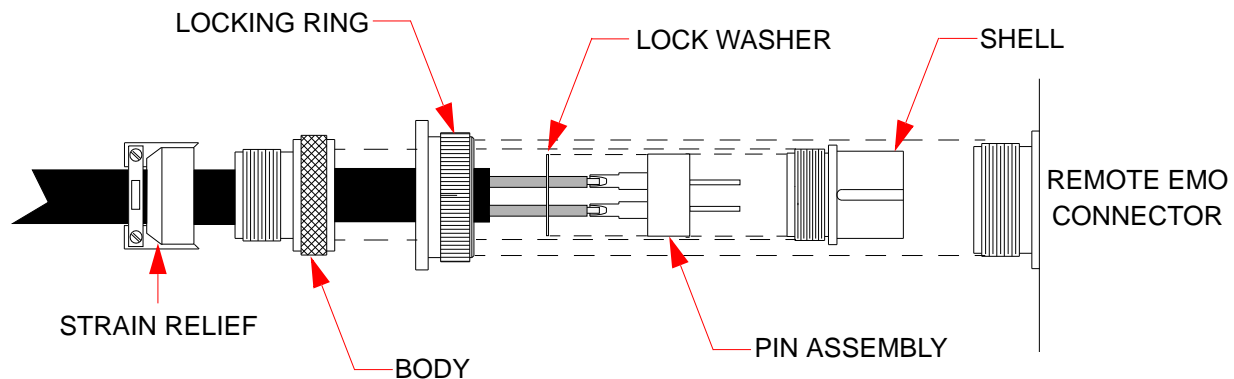

Figure 4-3: EMO Remote Connections
4. Slide the connector components over the cable as shown in Figure 4-3.
6. Solder the conductors of the customer supplied cable to the plug pins as shown in Figure 4-3.